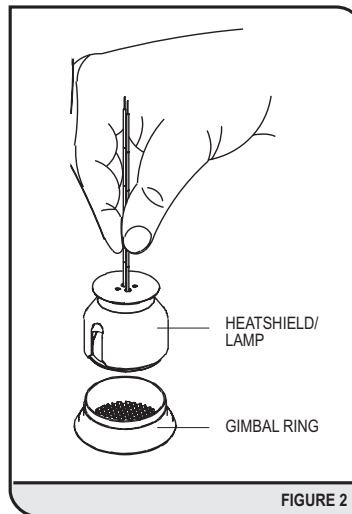

FIGURE 2
1. Remove lamp gimbal from body of fitting. Gently pull on the lamp holder leads to remove heatshield/lamp assembly from gimbal ring (fig 2).